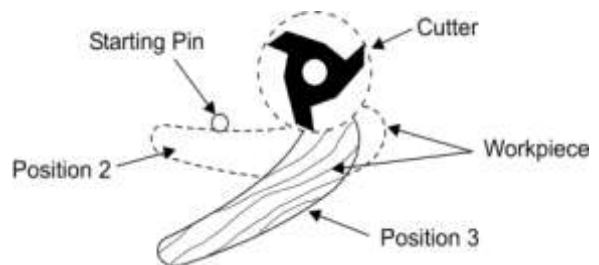

Fig. 41
- After the cut has been started, the work is swung free of the starting pin and only rides against the collar (Fig. 41). Always feed against the cutterhead rotation.